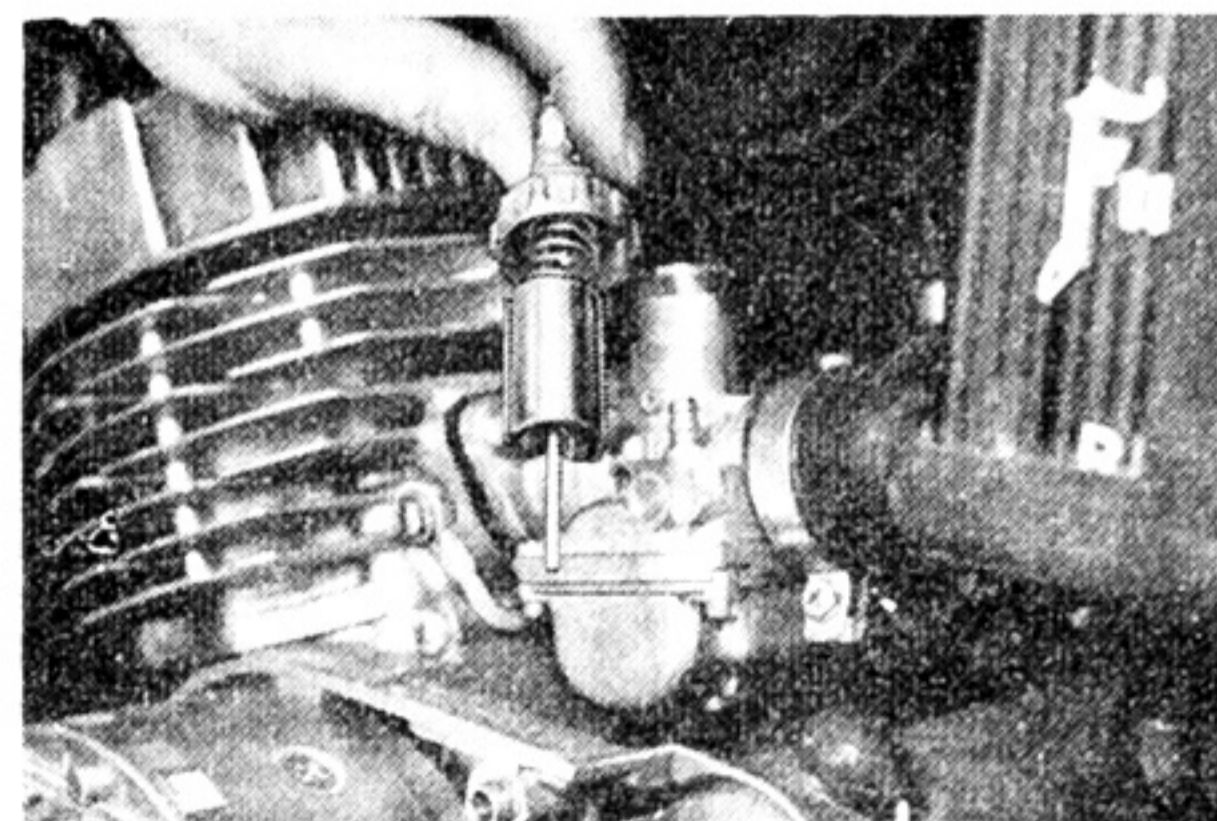

Fig. 3-1-7
5. Remove the carburetor throttle valve. (Fig. 3-1-7)